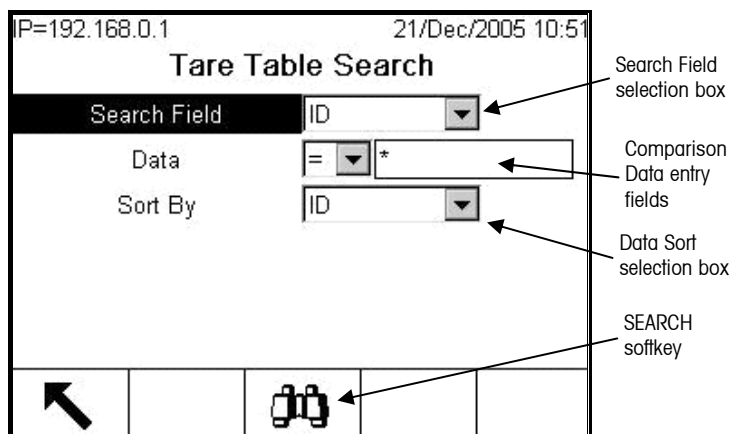

Figure 2-29: Tare Table Search Screen
3. To select a sub-set of records from the table, press the TABLE SEARCH soffkey . The Search Screen for the selected report type displays (see Figure 2-29).